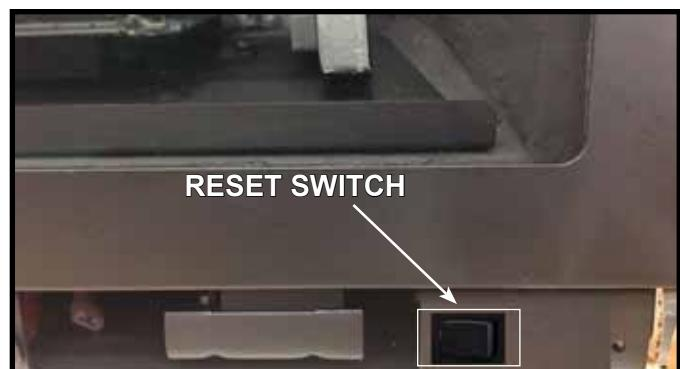

Figure 3.7 Reset Switch Location
The appliance has a reset switch located on the lower right hand side of the appliance behind the decorative barrier front. See Figure 3.7.
- Locate reset switch inside the appliance. See Figure 3.7. Hold reset switch down for one second and release. A "beep" will signal module is reset.